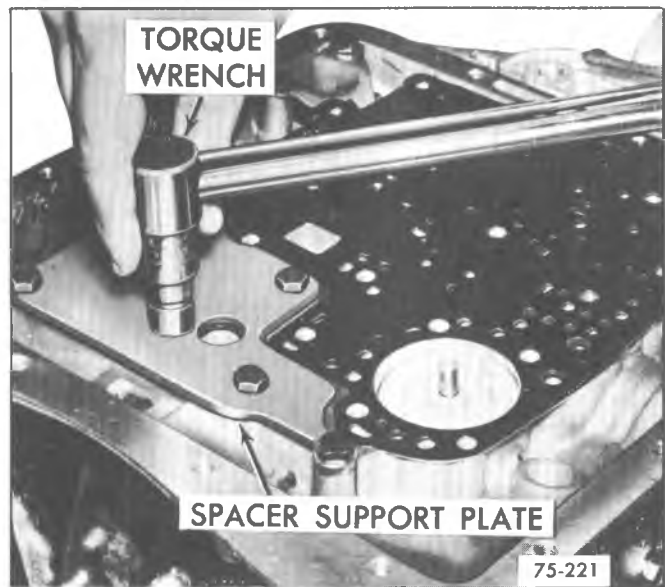

Fig. 7A-16B--Removing Transfer (Spacer) Support Plate
- detent actuating lever (fig. 7A-15B). Refer to valve body disassembly.